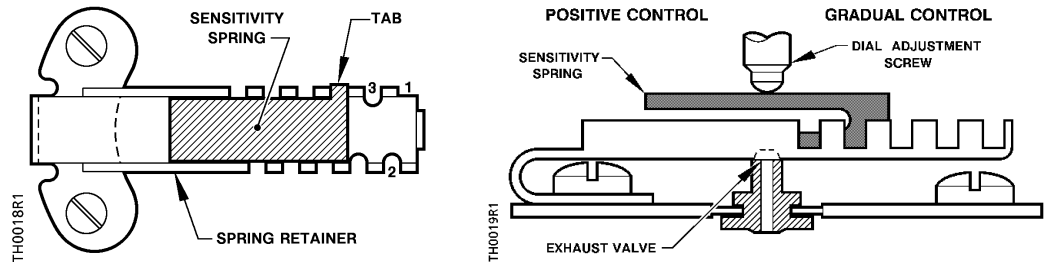

Figure 7. Sensitivity Spring Setting.
3. Lightly press, but do not bend the spring retainer. See Figure 7.
4. Move the sensitivity spring to the new position. See Figure 7. Table 2 gives the sensitivity spring tab location and the corresponding sensitivity value.